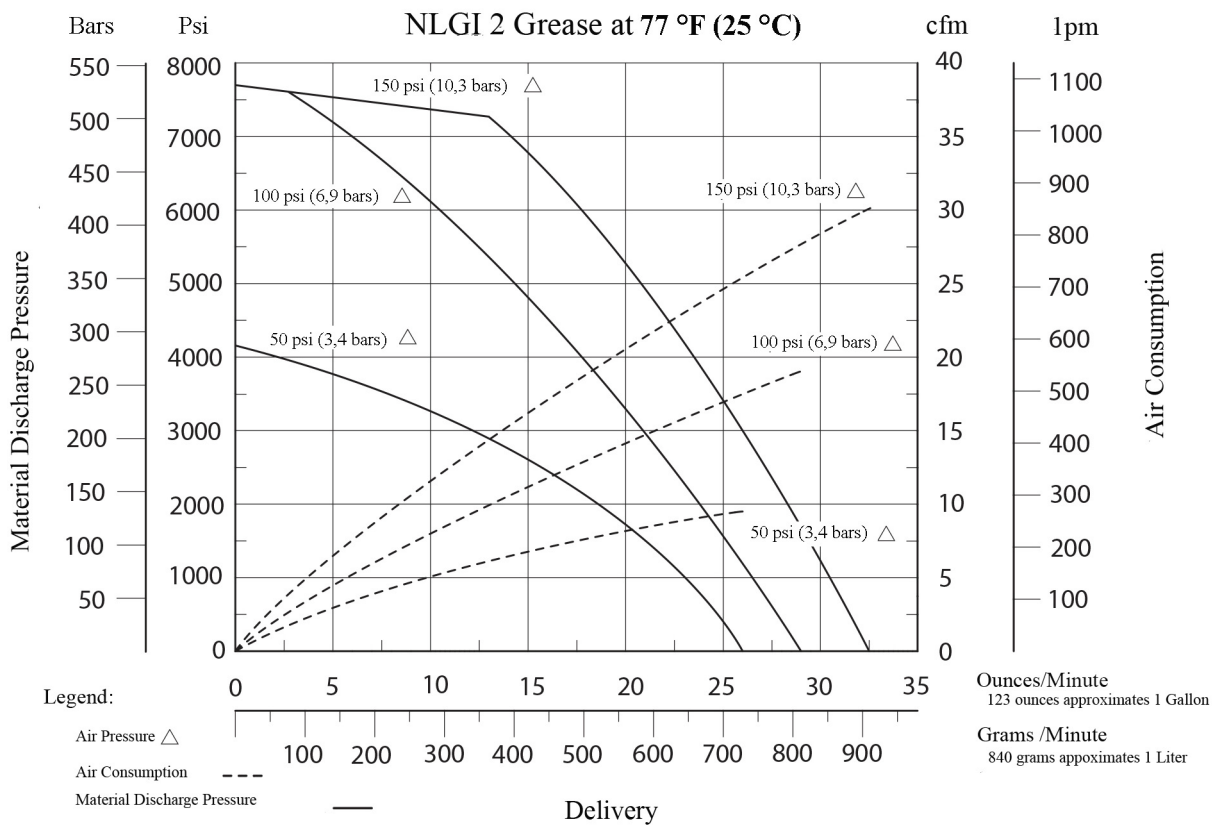

Figure 4 Delivery Versus Discharge Pressure And Air Consumption
* For detailed information, refer to Figure 4